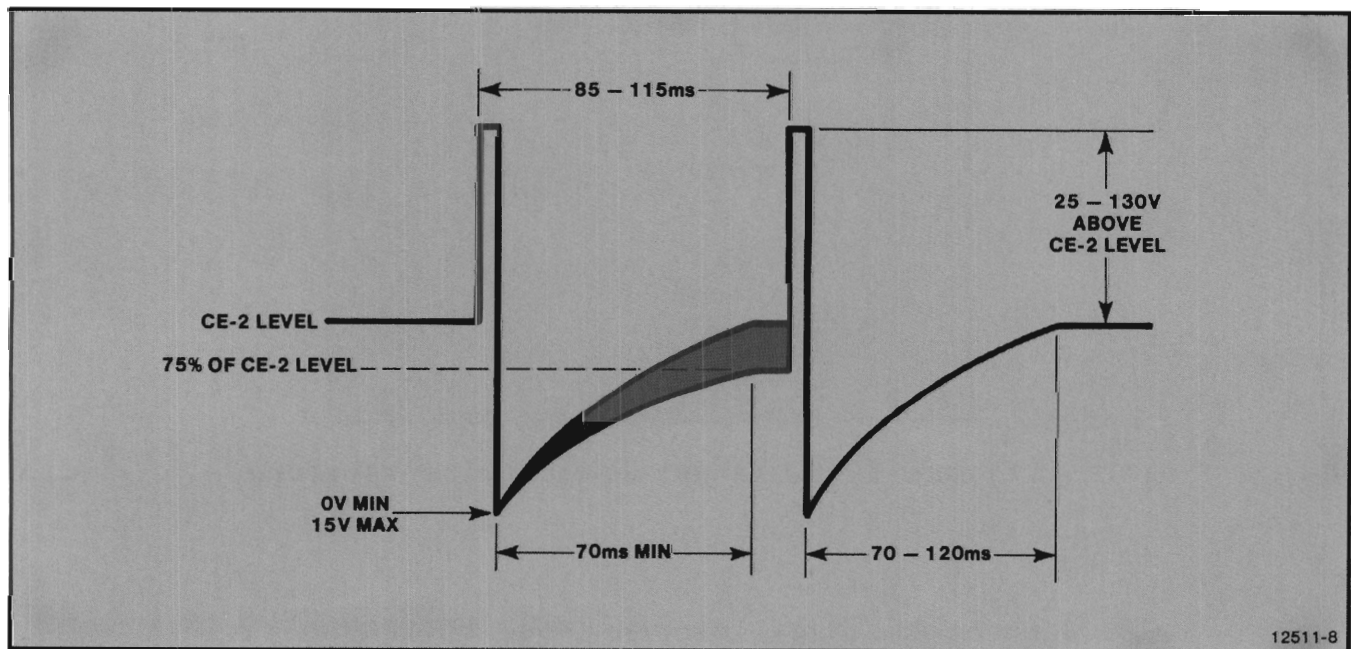

Figure 5-15. CE-2 Waveform.
20. Do the following using the waveform in Figure 5-15: